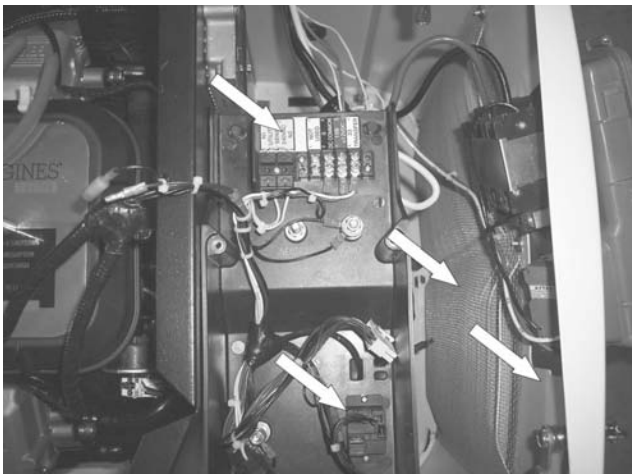

Figure 6.
5. Remove Control Wires: Remove Wires #N1, #N2, #0, #15B, #23, GFCI Outlet, and unit status lights from the control box. See Figure 6.